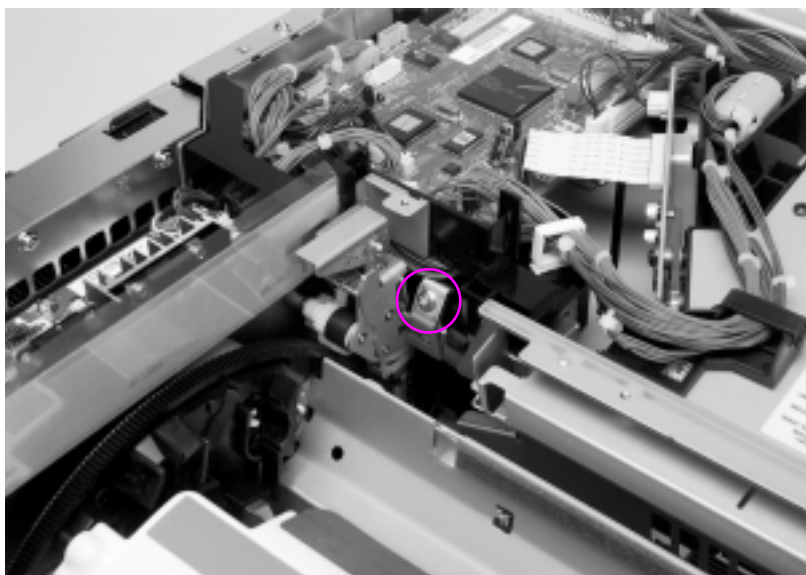

Figure 6-59 Carousel housing assembly removal and replacement (1 of 4)
- 9 Remove the screw from the carousel brake assembly shown in Figure 6-59 and remove the brake assembly.